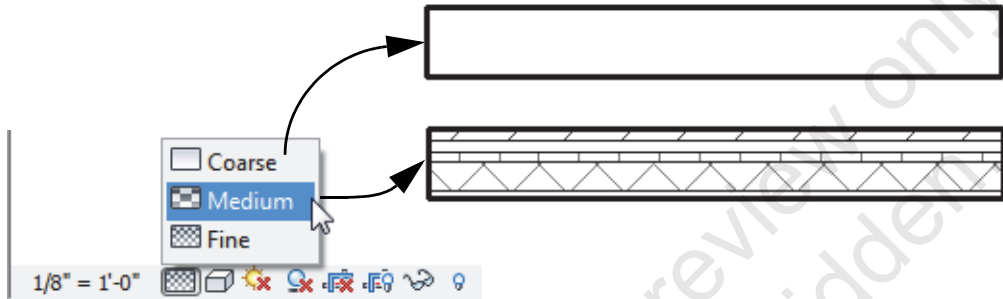

Figure 1–8
- To display the hatching in the walls in plan views, in the View Control Bar, set the *Detail Level* to **Medium** or **Fine**, as shown in Figure 1–8.